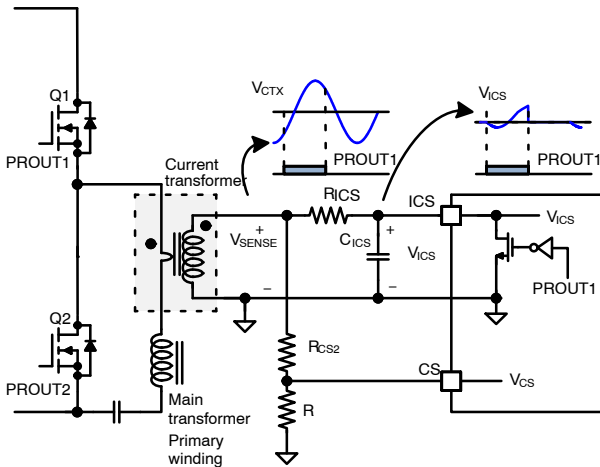
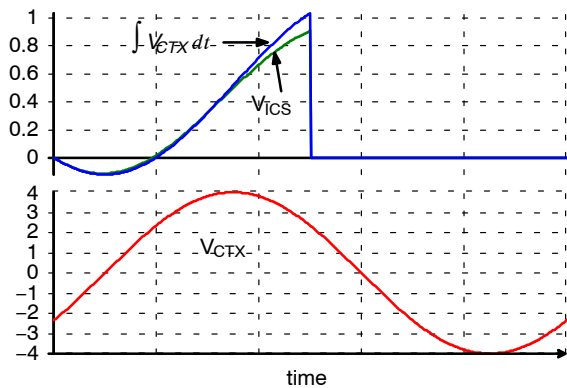
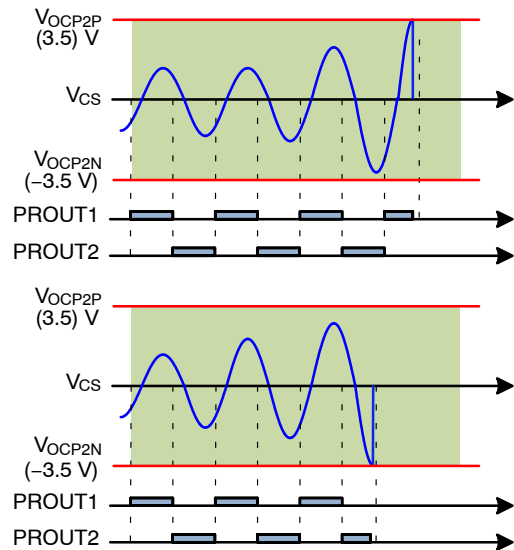

Figure 61. Current Sensing of FAN7688
Figure 62. Generating the Integral Signal (V_{ICS}) from V_{SENSE}
Figure 66. Over-Current Protection of the CS Pin
FAN7688 senses instantaneous switch current and the integral of the switch current as illustrated in Figure 61. Since FAN7688 is located in the secondary side, it is typical to use a current transformer for sensing the primary side current. While the PROUT1 is LOW, the ICS pin is clamped at 0 V with an internal reset MOSFET. Conversely, while PROUT1 is high, the ICS pin is not clamped and the integral capacitor (C_{ICS}) is charged and discharged by the voltage difference between the sensing resistor voltage (V_{SENSE}) and the ICS pin voltage. During normal operation, the voltage of the ICS pin is below 1.2 V since the power limit threshold is 1.2 V. The current sensing resistor and current transformer turns ratio should be designed such that the voltage across the current sensing resistor (V_{SENSE}) is greater than 4 V at the full load condition. Therefore the current charging and discharging C_{ICS} should be almost proportional to the voltage across the current sensing resistor (V_{SENSE}). Figure 62 compares the V_{ICS} signal and the ideal integral signal when the amplitude of V_{SENSE} is 4 V. As can be seen, there is about 10% error in the V_{ICS} signal compared to the ideal integral signal, which is acceptable for most designs. If more accuracy of the V_{ICS} is required, the amplitude of V_{SENSE} should be increased.
6. Over-Current Protection (OCP2): When V_{CS} is higher than 3.5 V or lower than -3.5 V, over-current protection (OCP) is triggered. The instantaneous primary side current is also sensed on CS pin. Since the OCP thresholds on the CS pin are 3.5 V and -3.5 V as shown in Figure 66, the CS signal is typically obtained from V_{SENSE} by using a voltage divider as illustrated in Figure 61. 150 ns debounce time is added for OCP.